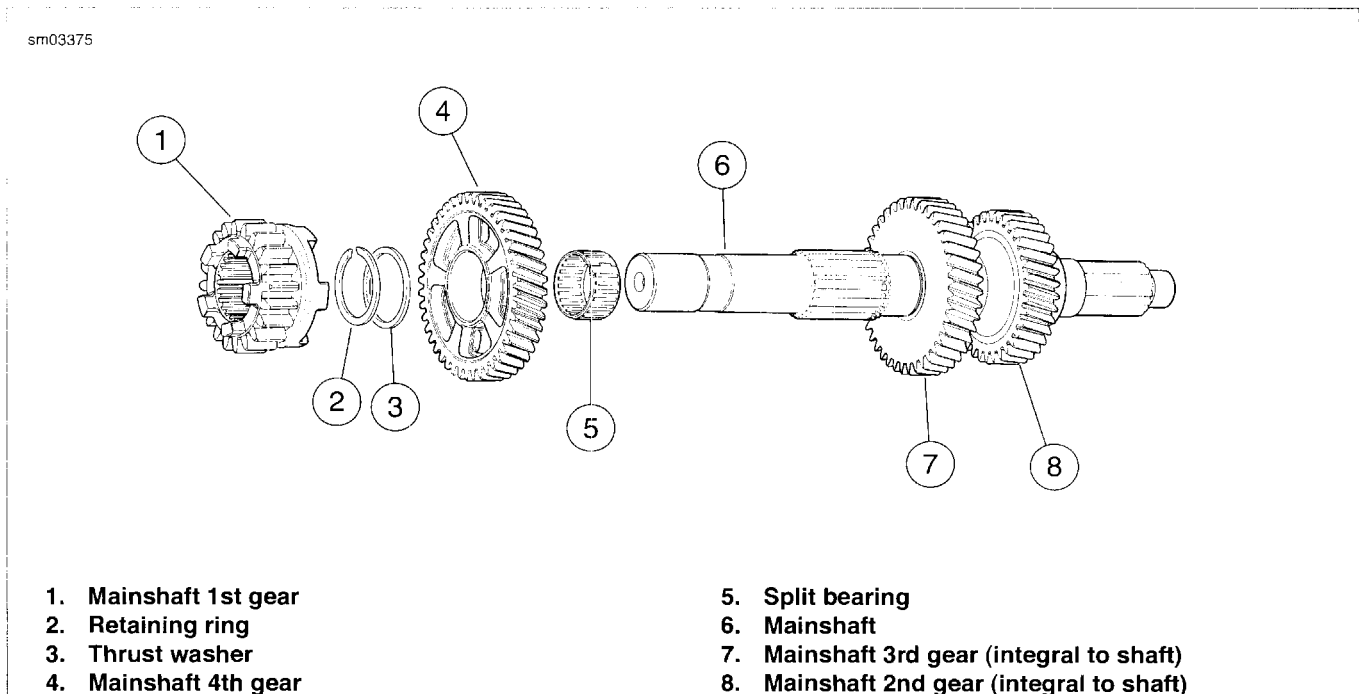

Figure 5-66. Transmission Mainshaft Assembly Once Removed from Left Crankcase/Disassembly
1. See Figure 5-66. Remove 1st gear (1).
2. Use TRANSMISSION SHAFT RETAINING RING PLIERS (Part No. J-5586-A) to expand and remove retaining ring (2). Discard retaining ring.
3. Slide thrust washer (3) off end of mainshaft.
4. Remove 4th gear (4) and split bearing (5). Discard bearing.